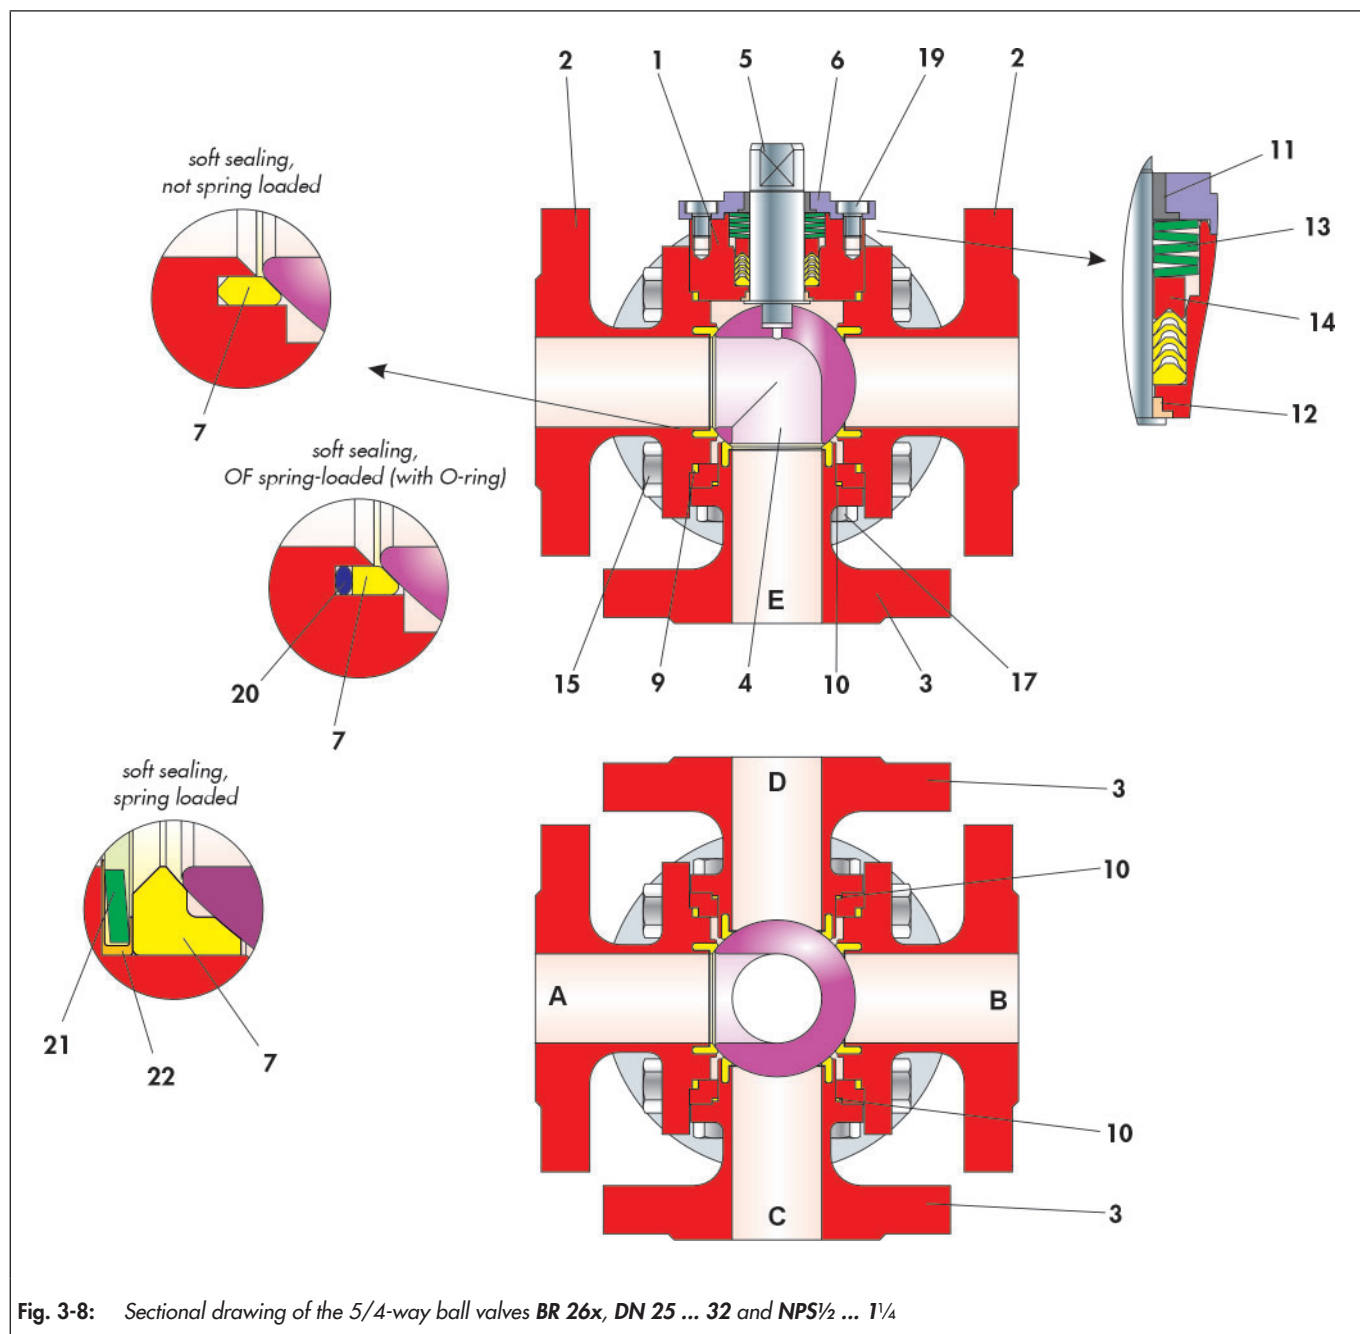

Fig. 3-8: Sectional drawing of the 5/4-way ball valves BR 26x, DN 25 ... 32 and NPS½ ... 1¼
- Depending on the version, stud bolts (15) with nuts (16) or screws (15) can be used.
- ⇒ Press the bearing bush (12) at the appropriate location into the main body (1).
- ⇒ Push the control shaft (5) through the mounted bearing bush (12) into the main body. Make sure the control shaft can be moved.
- ⇒ Slightly rotate the V-ring packing (14) so it can be pushed over the mounted control shaft (5) more easily and insert it at the appropriate packing location into the main body (1). For the arrangement of the V-rings, see Fig. 3-8
- ⇒ Place the disc springs (13) onto the packing. For the arrangement of the disc springs, see Fig. 3-8.
- ⇒ Press the bearing bush (11) into the packing box flange (6).
- ⇒ Place the packing box flange (6) over the control shaft (5) onto the main body (1).
- ⇒ Lightly grease the screws (19).
- ⇒ Adjust the stuffing box flange with the screws (19).